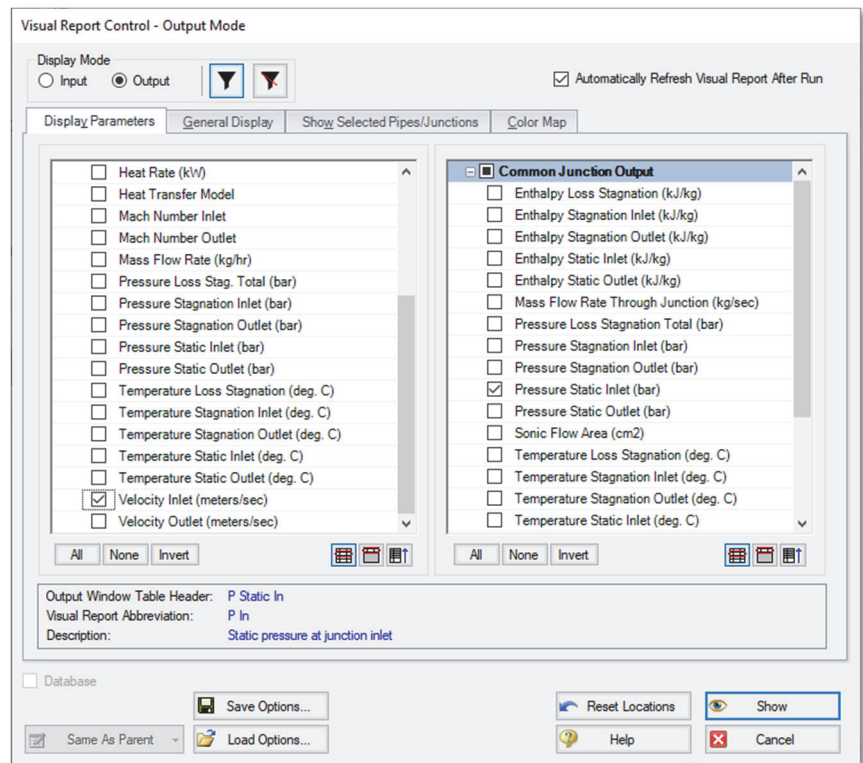
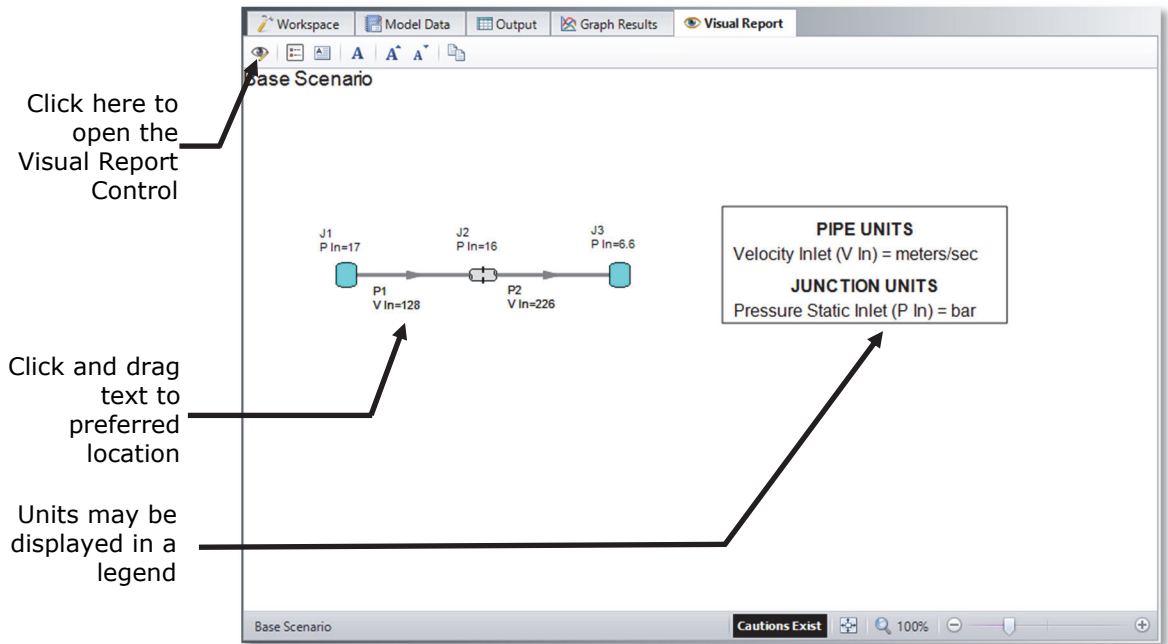

Figure 2.19 The Visual Report Control window selects content for the Visual Report window
Figure 2.20 The Visual Report integrates results with model layout
- Click the **Visual Report Control** button on the **Visual Report Toolbar** (or Tools menu) and open the Visual Report Control window, shown in Figure 2.19. The Visual Report Control window will open by default when you first open the Visual Report window. Select **Velocity Inlet** in the **Pipe Results** area and **Pressure Static Inlet** in the **Junction Results** area. Click the **Show** button. The Visual Report window graphic is generated (see Figure 2.20).
It is common for the text in the Visual Report window to overlap when first generated. You can change this by selecting smaller fonts or by dragging the text to a new area. You can also use the Visual Report Control window to display units in a legend to increase the clarity of the display. These adjustments have already been done in Figure 2.20. This window can be printed or copied to the clipboard for import into other Windows graphics programs, saved to a file, or printed to an Adobe PDF file.